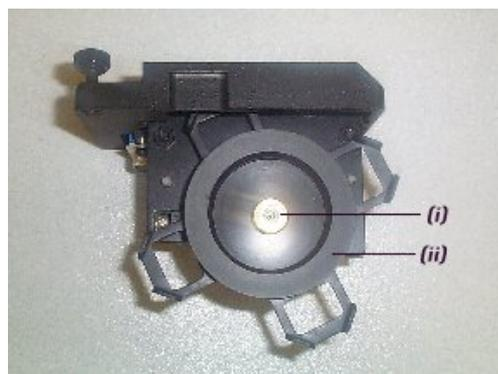

Figure 2. i) Knurled nut; ii) Filter locking wheel
- 1 Using your fingers, carefully unscrew the knurled nut (Figure 2 (i)) in the center of the black plastic filter locking wheel (Figure 2 (ii)) and remove the locking wheel from the accessory.